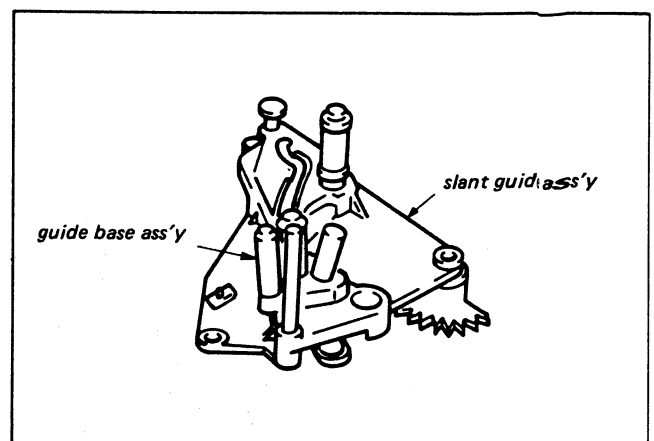

Fig. 3-24.
- 2) Set the slant guide assembly guide base assembly in unthreaded state (guide base assembly is on front panel side) and mount. (See Fig. 3-24)